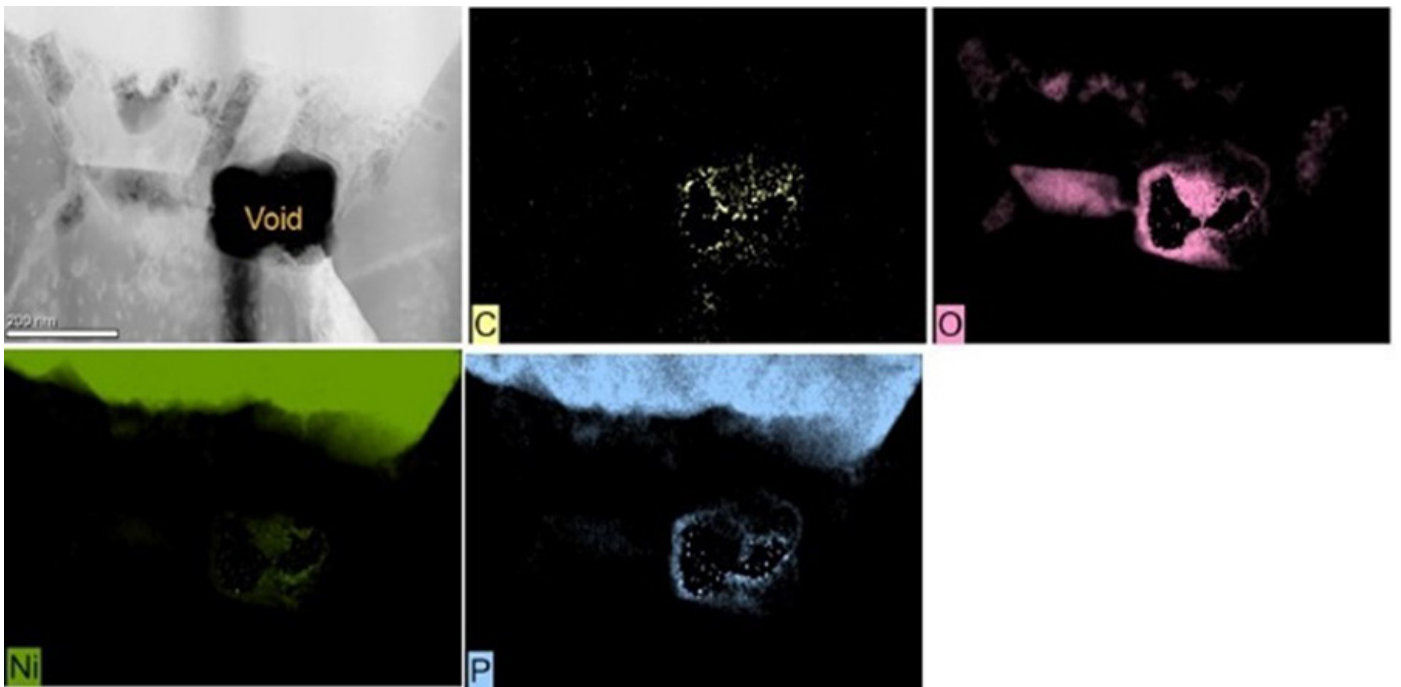

Figure 7. Nickel seam particle from Figure 6c.
Energy-dispersive x-ray spectroscopy (EDS) was used to analyze the particle site in Figure 6c. Evidence is clear of carbon (C), oxygen (O), nickel (Ni) and phosphorous (P), along with empty space (Figure 7). The seam pathway is now set for the immersion gold to corrode the nickel deposit.